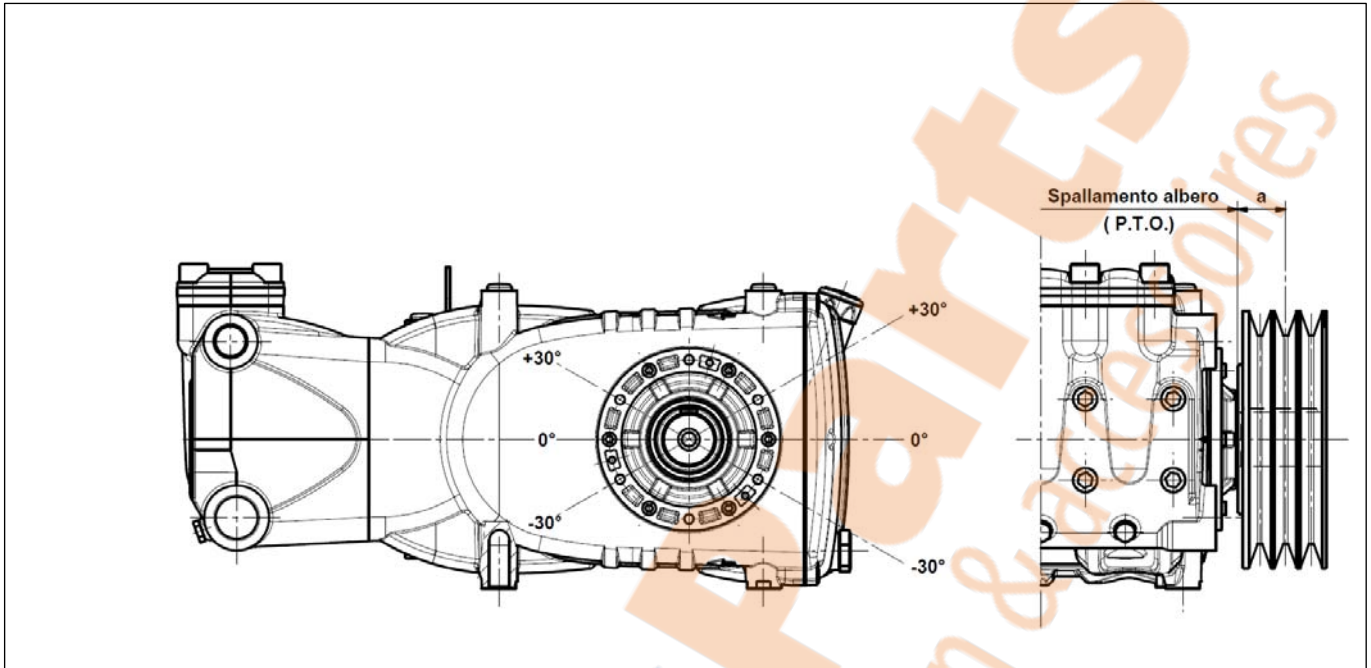

fig. 10
The radial load on the shaft must not exceed 4500 N (value necessary for Layout definition). The transmission is considered adequate if the load is applied to a maximum distance $a=50$ mm from the shaft shoulder (P.T.O) as shown in fig. 10.
- b) Use high performance belts – for example **XPB** instead of **SPB** – as a lower quantity of belts for the same transmitted power may be necessary and a consequent shorter resulting distance compared to the shaft shoulder (P.T.O). "a" of fig. 10
- e) Follow the direction of the belt pull as shown in fig. 10; for other needs, contact our **Technical or Customer Service Departments**.